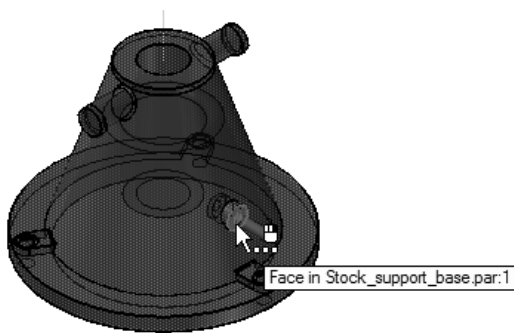

Figure 12-31 Arrow showing the direction of explosion
4. Select the face of the stationary part, as shown in Figure 12-31, to specify the direction of explosion.